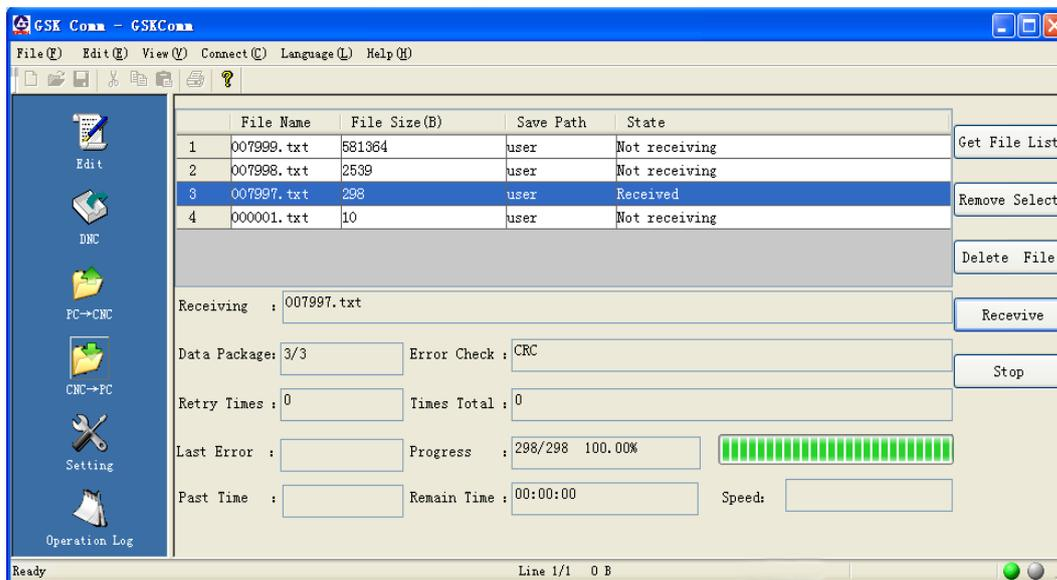

Fig. 11-2-2-3
- After the file receiving, the status bar of the dialog displays “Received”, which is shown in Fig. 11-2-2-4.